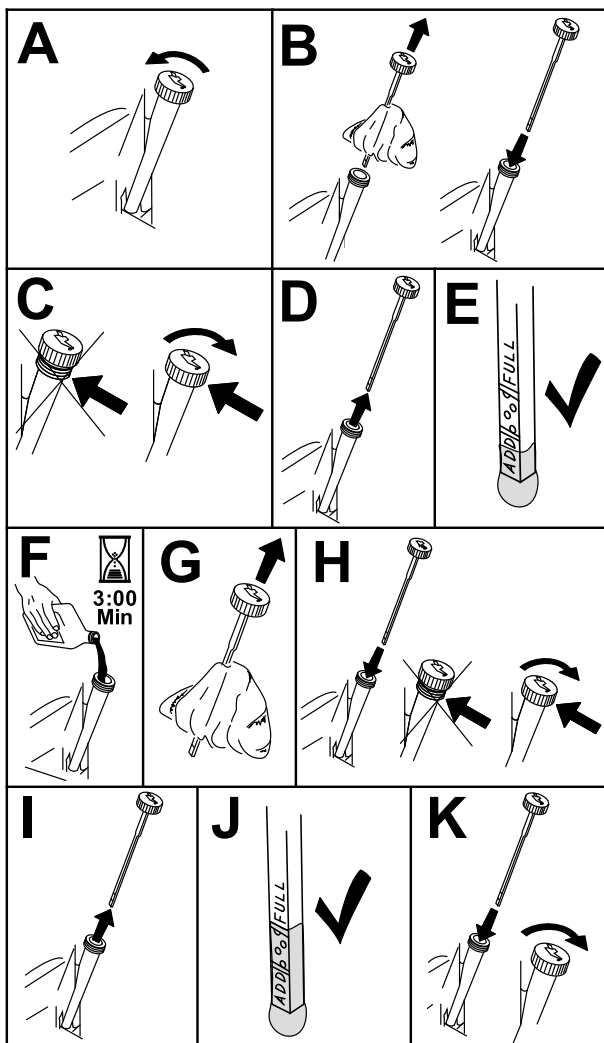

Figure 36
- To keep dirt, grass clippings, etc., out of the engine, clean the area around the oil-fill cap and dipstick before removing it (Figure 36).